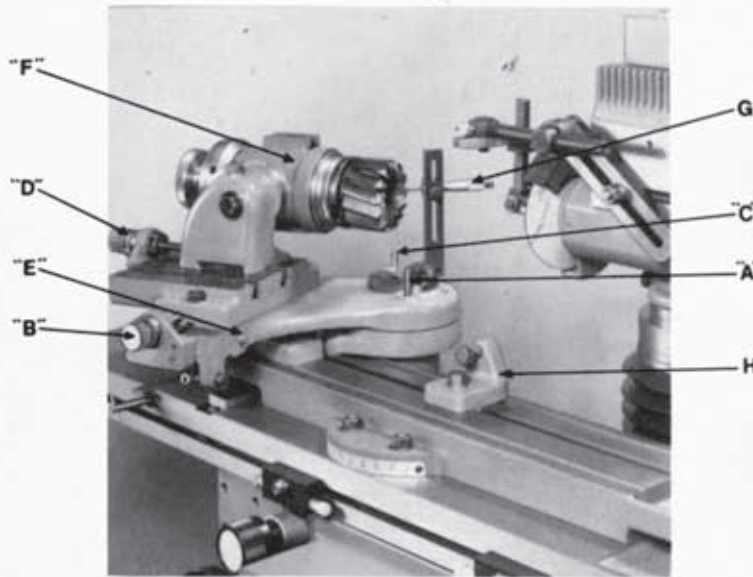

Figure 29/4 Functional Diagram — No. 2 Radius Grinding Attachment
4.13.2 No. 2 Radius Grinding Attachment (Fig. 29/4)
However, larger radii can be ground by adjusting the attachment slides beyond the range of the micrometer. The cutter can be ground while mounted in the attachment as illustrated in Fig. 29/4. The periphery, radius and face grinding operations of the cutter can all be performed with the same setup. In this way, an accurate radius and perfect blend will be obtained. Assuming we are going to grind a 6.35 mm (¼ in.) radius on a 150 mm (6 in.) diameter shell end mill, proceed as follows:
Key to Figure 29/4
6. **Positioning Cutter for Radius.** Stop machine, move cutter away from grinding wheel using machine controls, and back up attachment slides far enough to allow micrometer gauge to be mounted in tapered hole of attachment. Tapered hole should be thoroughly cleaned before using micrometer gauge. Locate against stop pin "A" (Fig. 29/4). Set micrometer barrel to proper height (use centering gauge) and adjust to desired radius (for a $\frac{1}{4}$ in. radius set micrometer at 0.250 in.). Turn crank "B" until periphery of cutter contacts spindle of micrometer (Fig. 29/4). Set graduated dial on crank "B" to zero and lock. Turn micrometer gauge 90 degrees against other stop pin "C" (Fig. 29/4). With micrometer still set at 0.250 in., turn crank "D" until face of cutter contacts micrometer spindle. Set graduated dial on crank "D" to zero and lock. Remove micrometer gauge and replace with tapered plug.
7. **Positioning Table and Saddle.** Loosen screw on rear of base plate swivel trunnion and position table and saddle of machine so point of cutter tooth swivels on tooth rest blade directly in front of grinding wheel (Fig. 29/4). Set left hand table dog so table cannot be traversed further to the right.
9. **Grinding Radius and Face.** Do not move saddle handwheel except to compensate for wheel wear. Back off crank "D" a few turns and loosen base plate and workhead spindle locking screws. Mount and position adjustable stop bracket on table of machine so knurled screw will contact button "E" in attachment (Fig. 29/4). With cutter tooth on tooth rest blade, swivel attachment 90 degrees and feed in with crank "D" until the cutter contacts the grinding wheel. Grind all teeth at this setting. After all teeth are ground, rotate cutter 180 degrees from first tooth and move in with crank "D" a small amount.